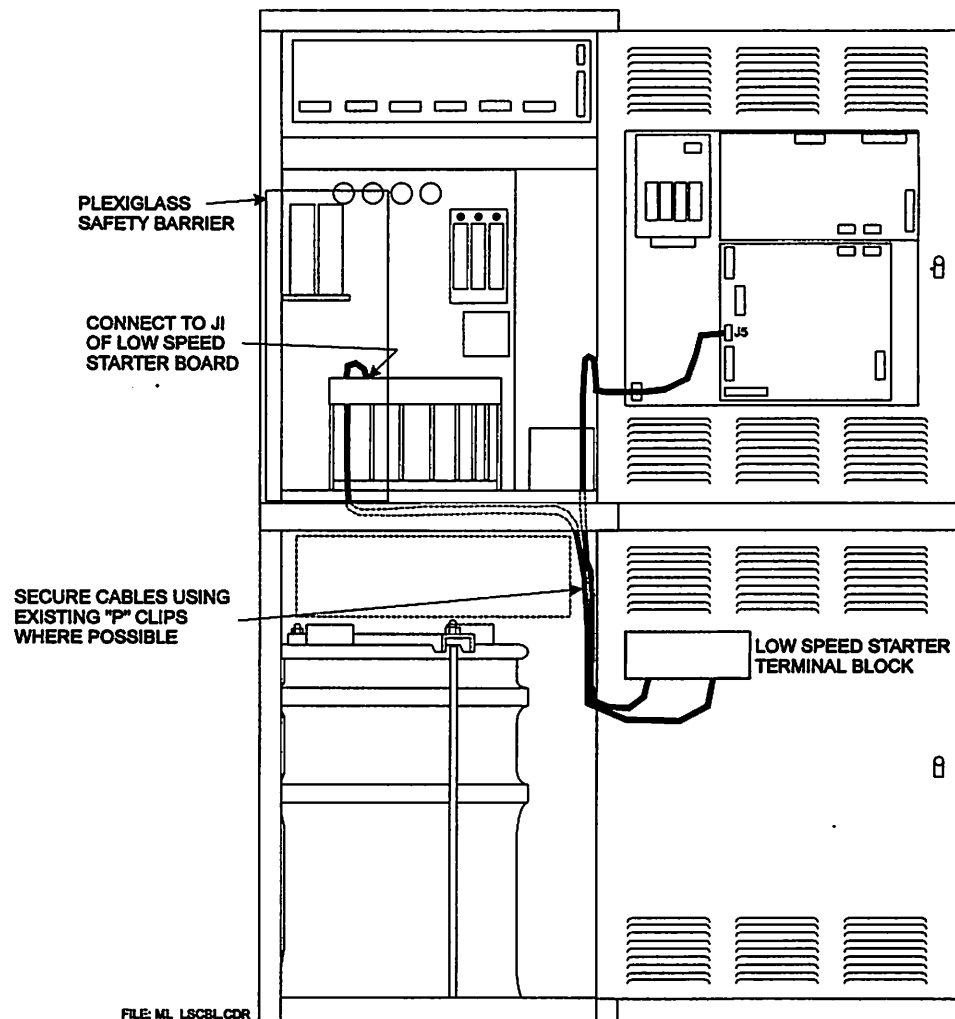

Figure 2-8: Low speed starter wiring
Refer to figure 2-8. This section applies only to units fitted with low speed starter.
3. Route the two cable assemblies through the appropriate cutouts in the two cabinets as per figure 2-8, securing the cables as required using existing "P" clips and/or supplied tie wraps.